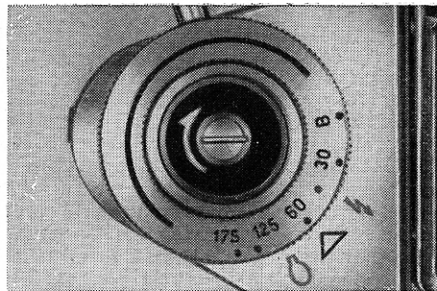

Fig. 31
When working with the most commonly-used, quick-burning miniature flash bulbs, the shutter-speed setting ring (14) should be turned so that the red dot is set to the flash bulb symbol (☄) (see Fig. 31); the shutter will then be set to  $1/30$  sec.